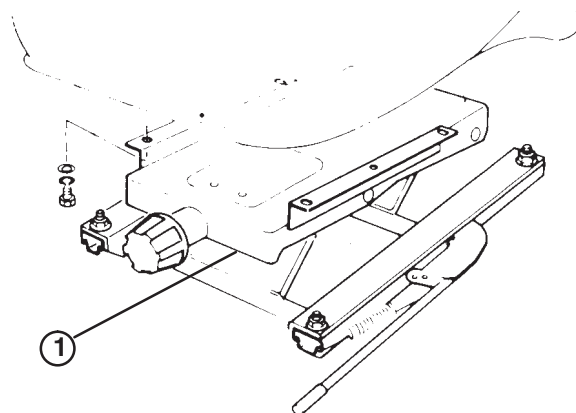

Figure 7
4. Secure seat suspension to seat mounting plate with (4) flange locknuts (Fig. 7).
5. Mount seat to seat suspension with (4) capscrews, lockwashers and flatwashers (Fig. 7).